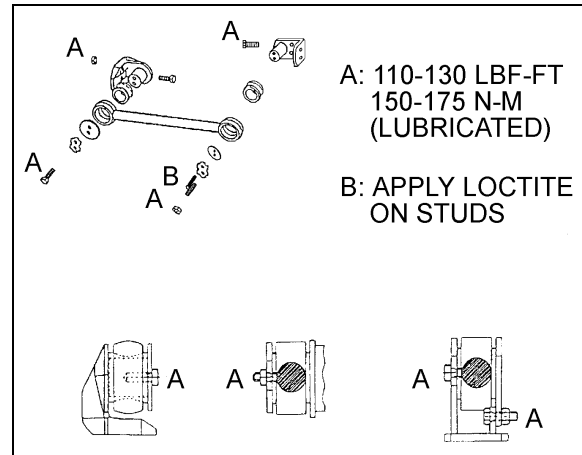

FIGURE 21: RADIUS ROD INSTALLATION 16028
1. Lightly spray the radius rod support with water. Place the radius rod end over the radius rod support (Fig. 21).